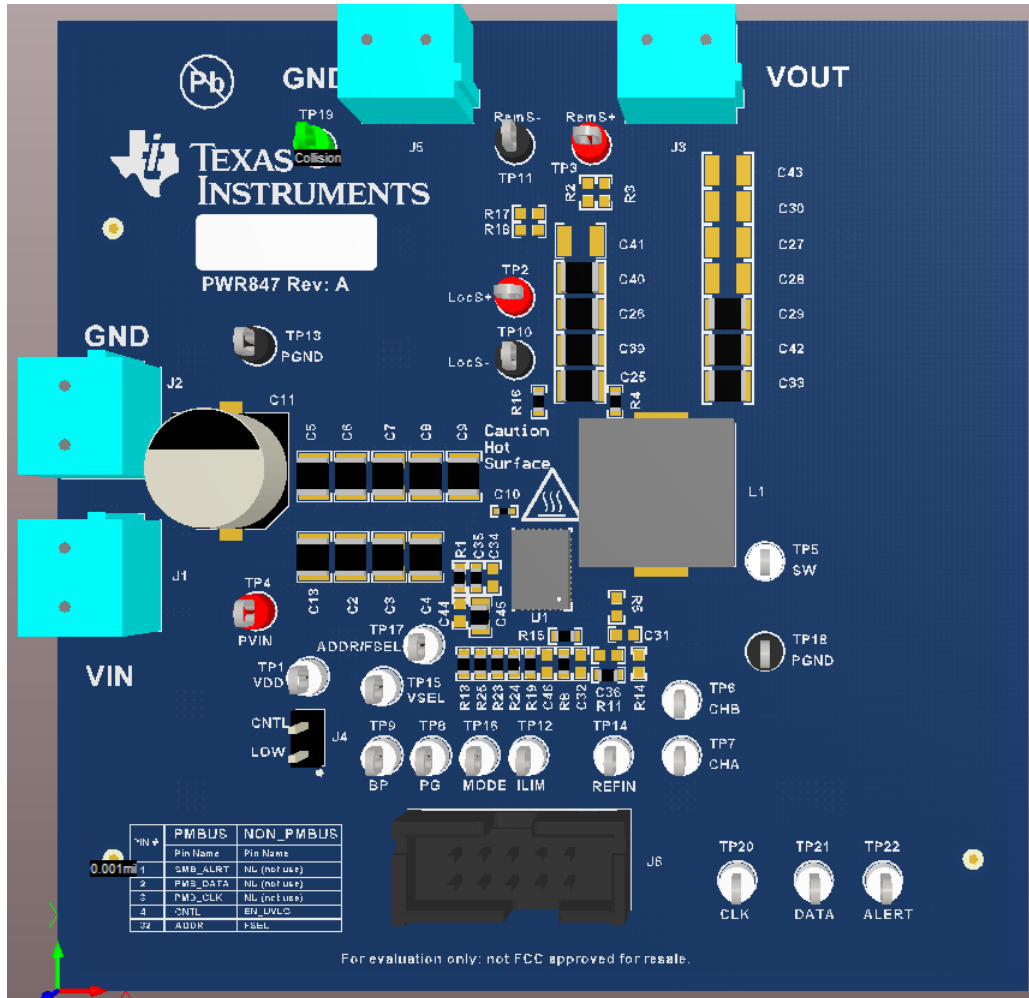
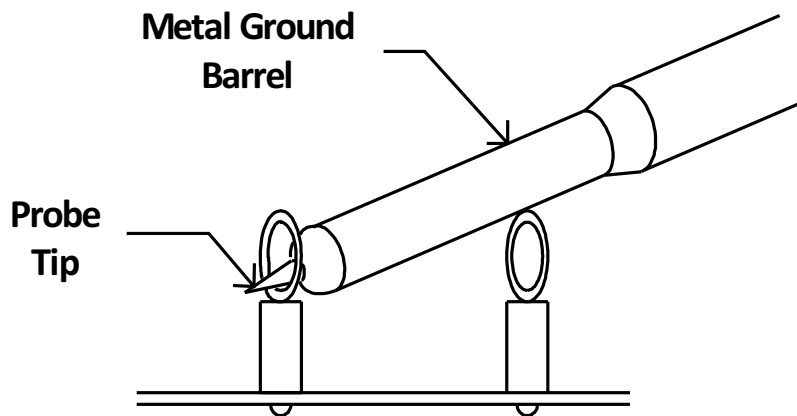

Figure 2. PWR-847EVM Overview
Figure 3. Tip and Barrel Measurement
**Multimeters:** It is recommended to use two separate multimeters Figure 2. One meter is used to measure  $V_{IN}$  and one to measure  $V_{OUT}$ .
**Output Load:** A variable electronic load is recommended for testing Figure 2. It must be capable of 25 A at voltages as low as 0.6 V.
**Oscilloscope:** An oscilloscope is recommended for measuring output noise and ripple. Output ripple must be measured using a tip-and-barrel method or better as shown in Figure 3. The scope must be adjusted to 20-MHz bandwidth, AC coupling at 50 mV/division, and must be set to 1- $\mu$ s/division.
Figure 2 and Figure 3 illustrate the PWR-847EVM overview, tip and barrel measurement.
1. Connect VOUT to J3 and VOUT\_GND to J5 Figure 2.
3. Connect VIN to J1 and VIN\_GND to J2 Figure 2.